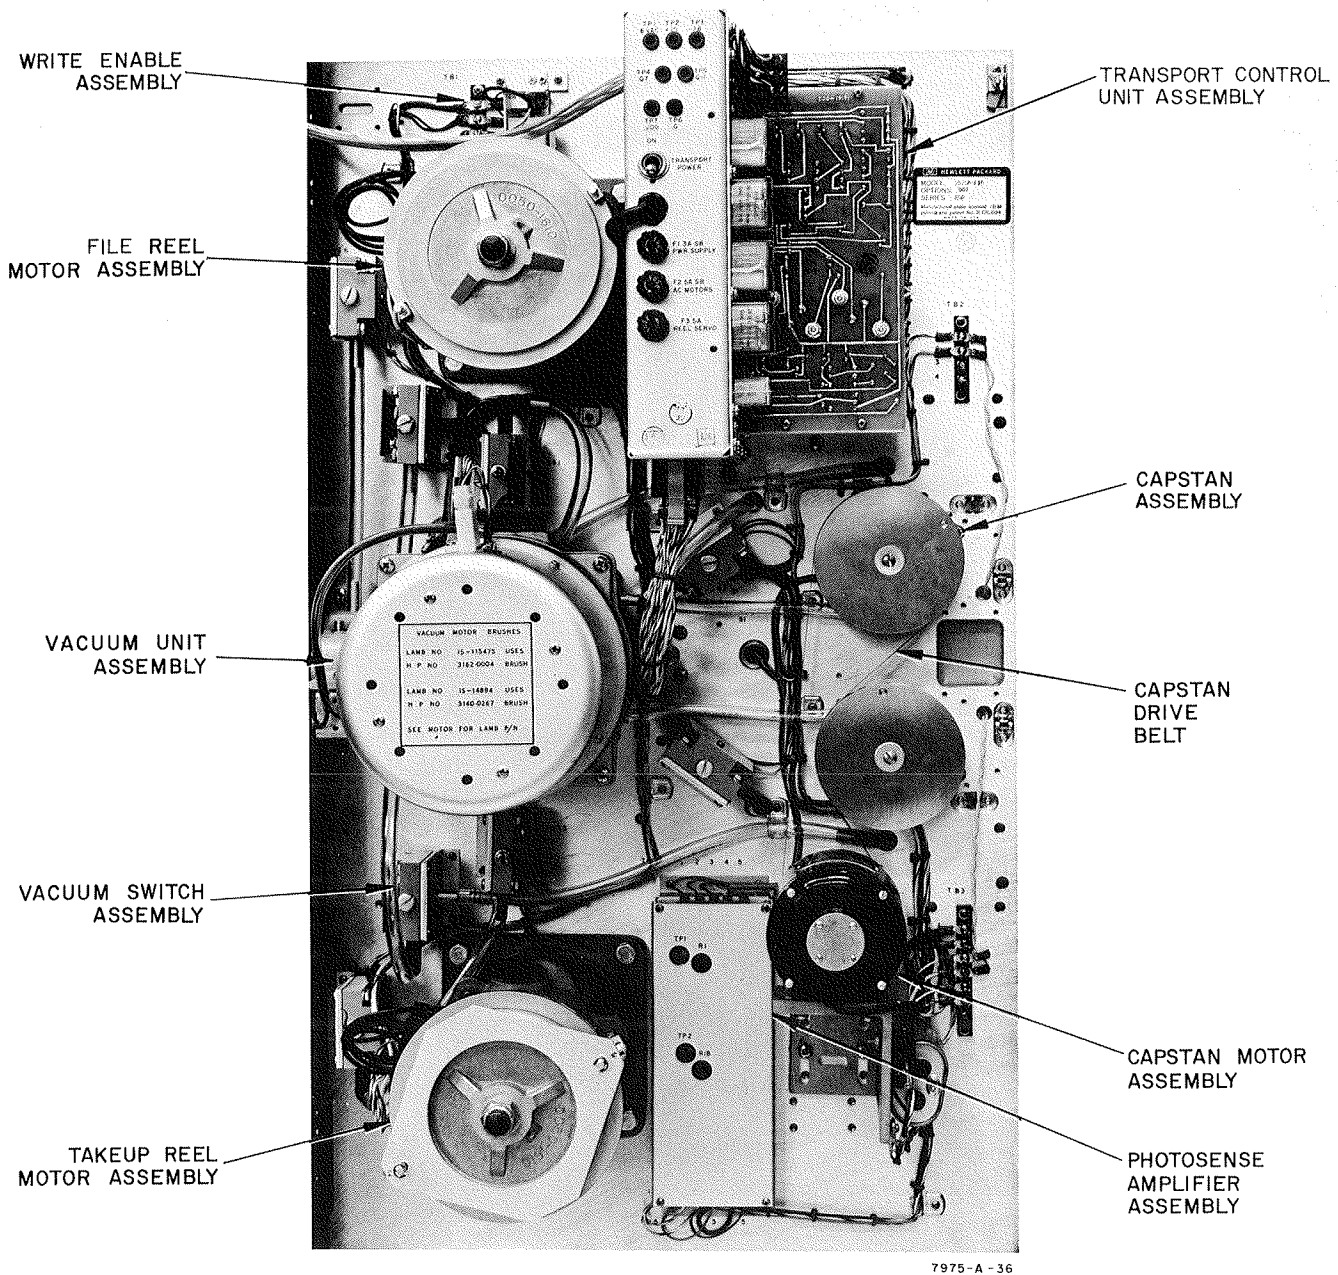

Figure 6-1. Tape Transport Rear Component Locations
c. Connect oscilloscope vertical input between photosense amplifier TP1 (figure 6-1) and ground.